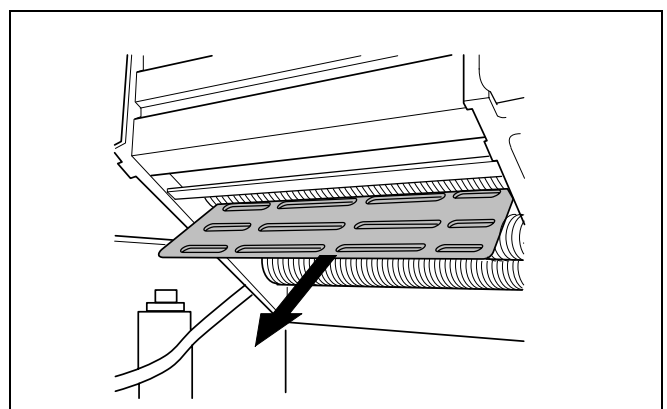

fig. 48 Baffle plate
- Pull out the baffle plate (fig. 48).